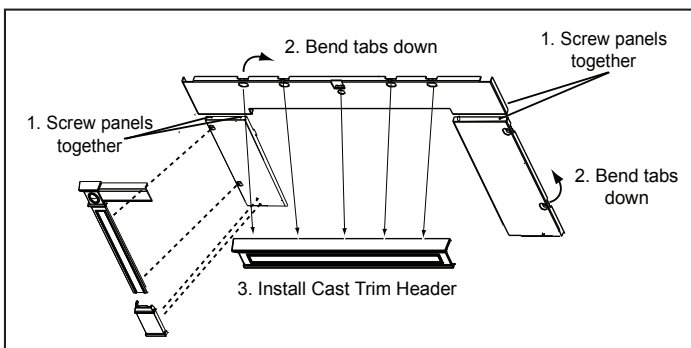

Figure 22.1
4. Now bend the tabs down toward the backside of the panel set, 5 on top and 2 on each leg. Leave the panel set face down. **Figure 22.1.**